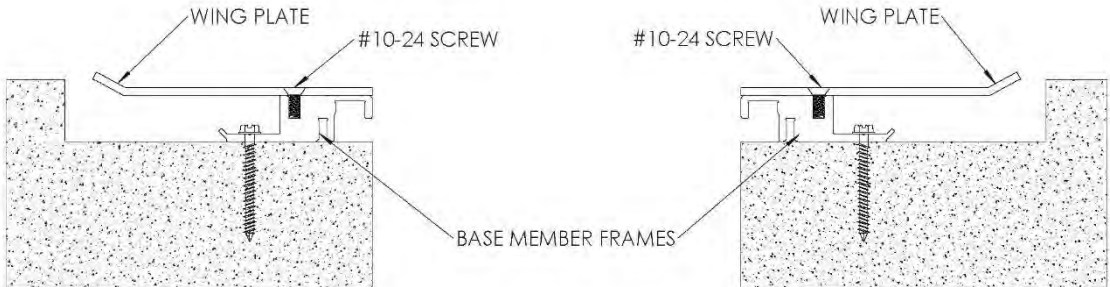

FIGURE 3
- 3. Reinstall the wing plate to the base member frame with the #10-24 screw. *Note: This step not necessary on the 2" and 4" size.* **See Figure 3**